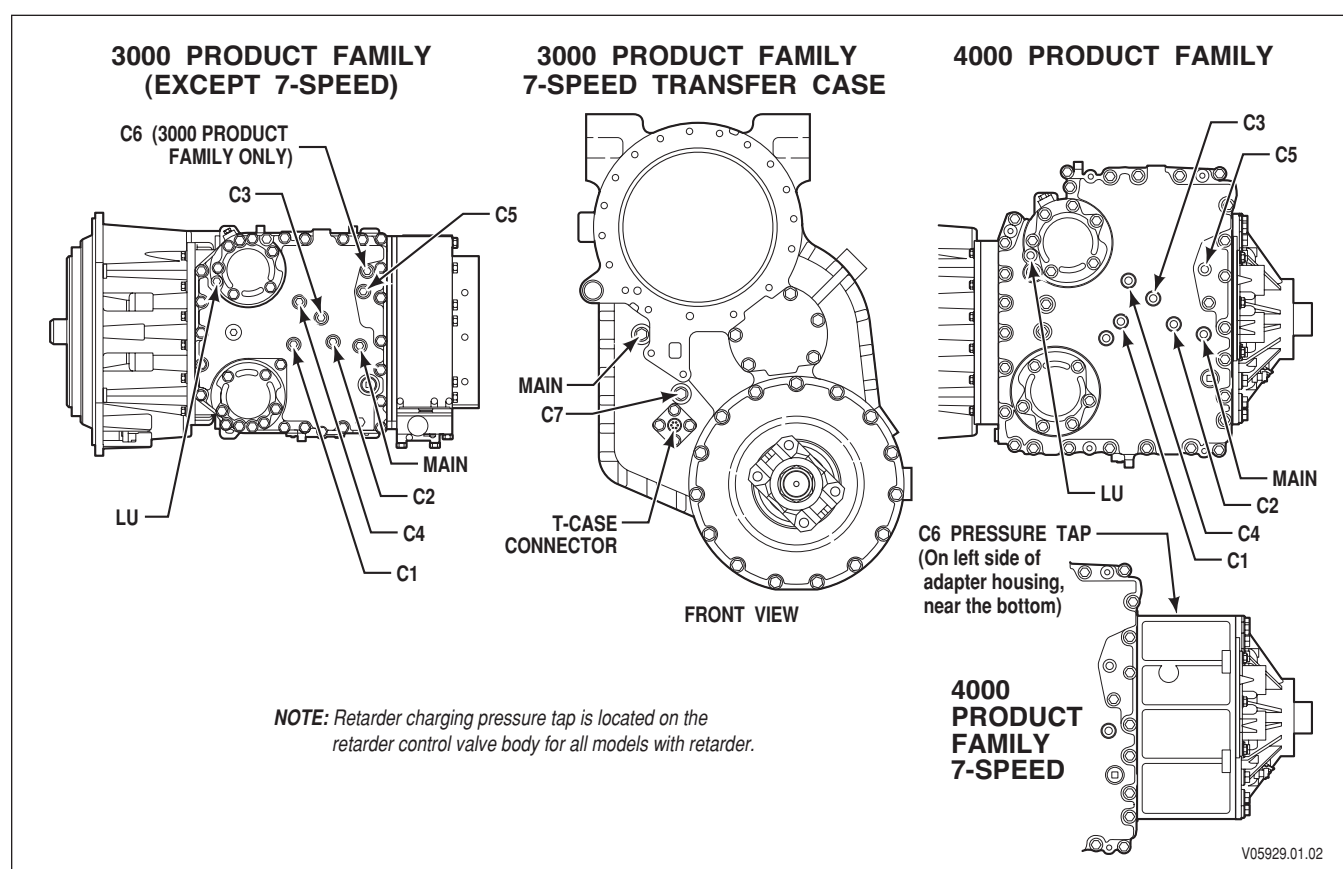

Figure B-1. Clutch Pressure Test Points
1. Remove the plugs from the pressure tap locations where measurement is desired (refer to Figure B-1).